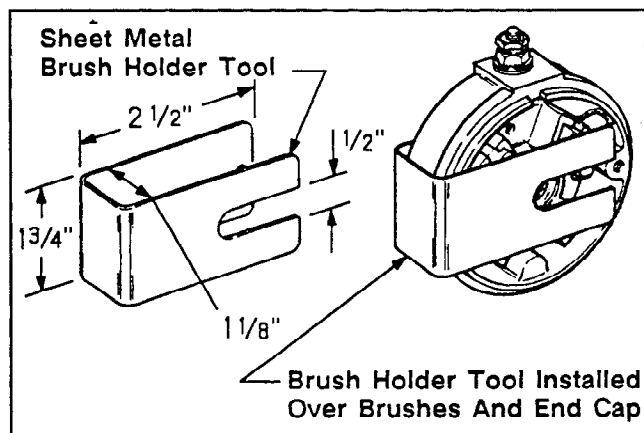

Figure 8-24. Brush Holder Tool.
NOTE: Use a brush holder tool to keep the brushes in the pockets. A brush holder tool can easily be made from thin sheet metal. Refer to Figure 8-24.
- Install the brush holder tool to keep the brushes in the pockets of commutator end cap. Refer to Figure 8-24.